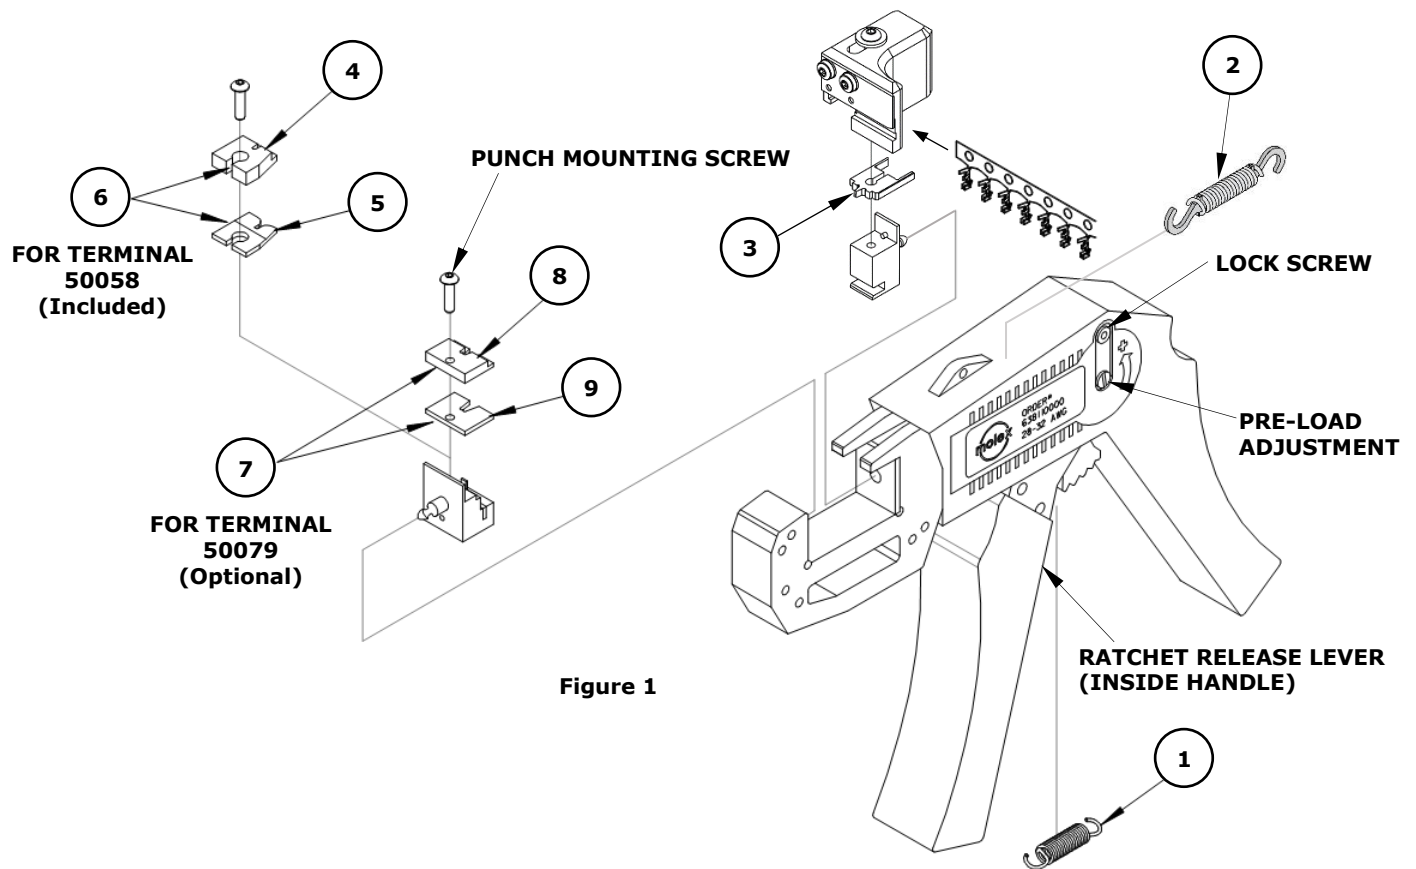

Figure 1
**Note:** The 50079 terminal series requires an optional tool kit (not included with this hand crimp tool). See parts list and Figure 1 for tool kit information.
This tool has an anti-backup ratchet to assure full cycles. Should this tool ever become stuck or jammed in a partially closed position, **do not force the handles open or closed**. The tool will open easily by pushing the ratchet release lever. See Figure 1.
1. Using a T8 Torx driver, remove the punch mounting screw. See Figure 1.
2. Note the current setting of the preload adjustment. See Figure 1.
4. Use a T8 Torx driver to remove the preload lock screw. See Figure 1.